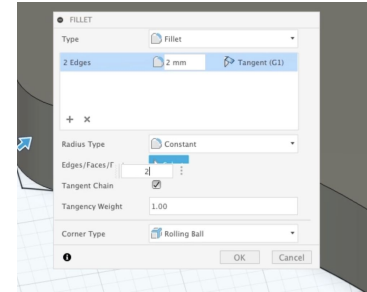

Figure 1.5
- **Fillet:** The '**Fillet**' tool rounds corners by applying a radius to selected edges. You'll select '**Fillet**' underneath '**Modify**' and a new window will appear where you can select your radius type (see Figure 1.5). Once the feature is applied, the sharp edge is replaced with a smooth curve, improving both strength and appearance. After you've added a feature, a new step is automatically added to your timeline, allowing you to revisit and edit it at any time.